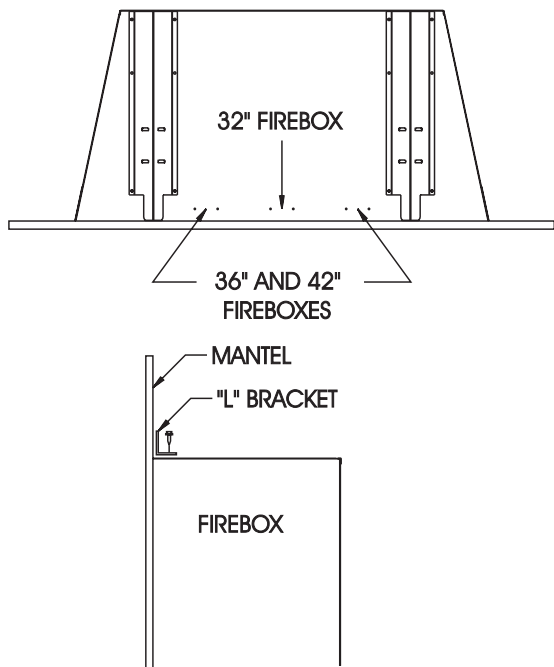

Figure 6
9. Attach L-bracket to top of firebox to secure mantel to firebox (2 screws per bracket). Figure 6